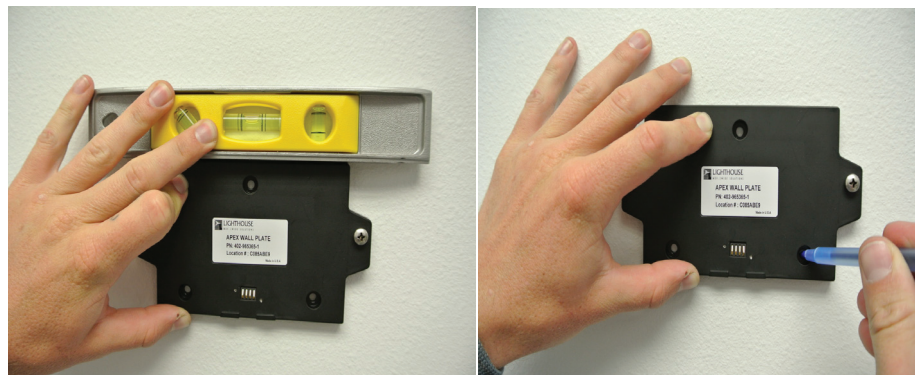

Figure 7-2 Mark Location of Mounting Holes
3. If the *SmartBracket* was ordered, use the *SmartBracket* as a template. Make sure it is level then use a pen or pencil to mark the center of the mounting holes. The *SmartBracket* has 3/16" holes and has been designed to accept 3/16-24, #8 or #10 flat head screws. See Figure 7-2.